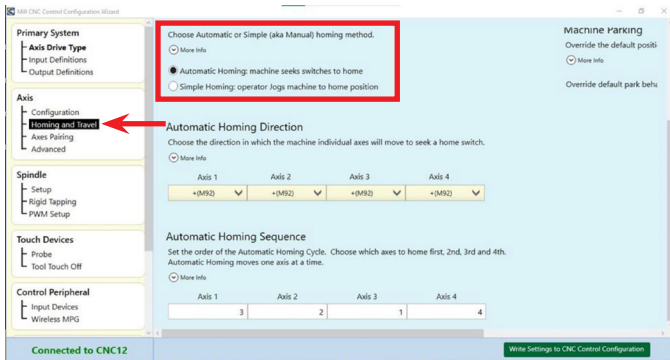

FIGURE 14—Select the Automatic Homing button.
2. Homing Program: The homing can be set to Automatic or Simple (AKA Manual) (see Figure 14).